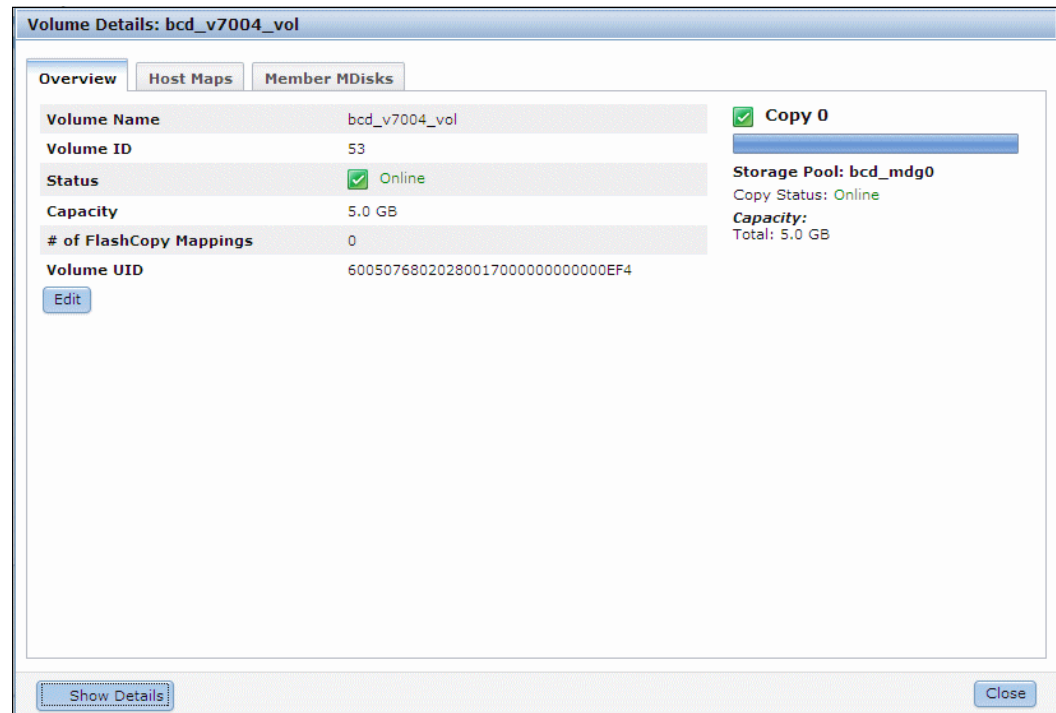

Figure 3-10 Storwize Volume details
1. From the Storwize side first, check the Volume UID field that was presented to the Spectrum Virtualize host, as shown in Figure 3-10 on page 87.